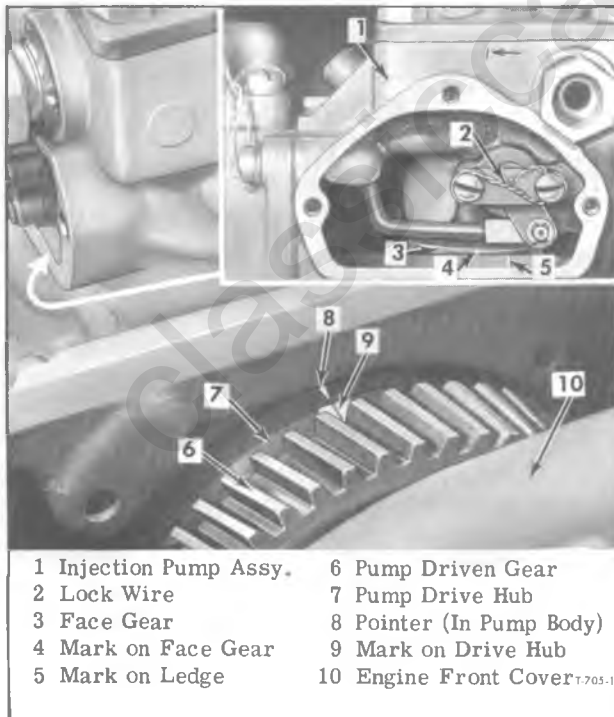

Figure 10—Timing Marks at Face Gear and at Injection Pump Gear Flange
1. Remove the cover and gasket from right side of fuel injection pump to expose the alignment marks in the opening below the control unit lever (4 and 5, fig. 10).
2. Remove the access cover and gasket from top of engine front cover assembly to expose pointer (8, fig. 10) and mark on injection pump hub (9, fig. 10).
4. If engine is correctly timed, the mark and pointer (9 and 8, fig. 10) will be indexed and mark (4, fig. 10) on face gear viewed through cover opening in pump housing will be in the position shown in the inset in figure 10.